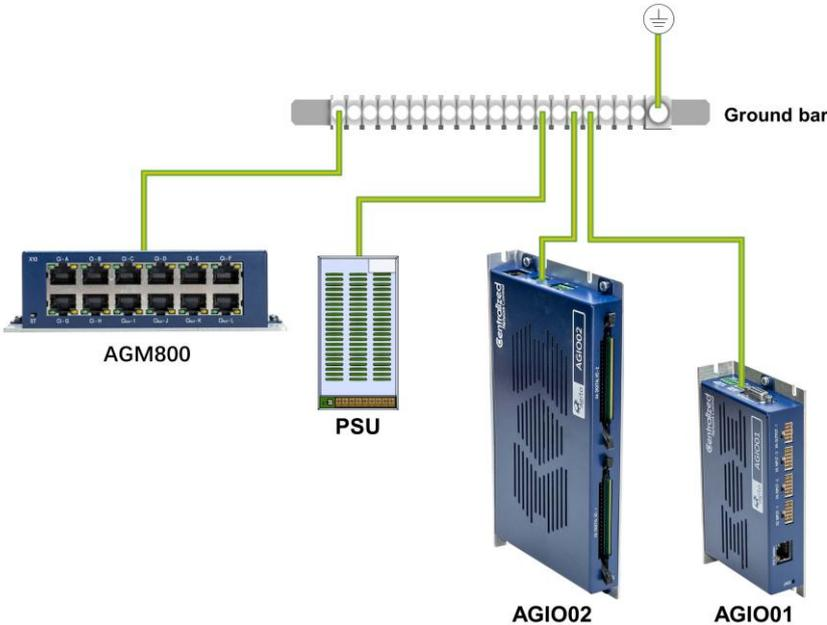

Figure 7. System Grounding
- The AGIOxx must be connected to protective earth (PE) and connected to the building's ground. PE is protected with an earth-leakage circuit breaker (ELCB); hence it is safe to touch. Refer to Figure 7.